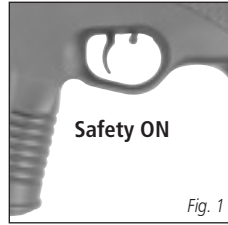

Fig. 1
- To set the safety to 'ON', pull safety lever to the rear. In this position, the trigger cannot be pulled and the gun cannot be fired. (Fig.1)
**CAUTION:** Until you are actually ready to shoot, keep the safety button in the "ON" position (Fig. 1).